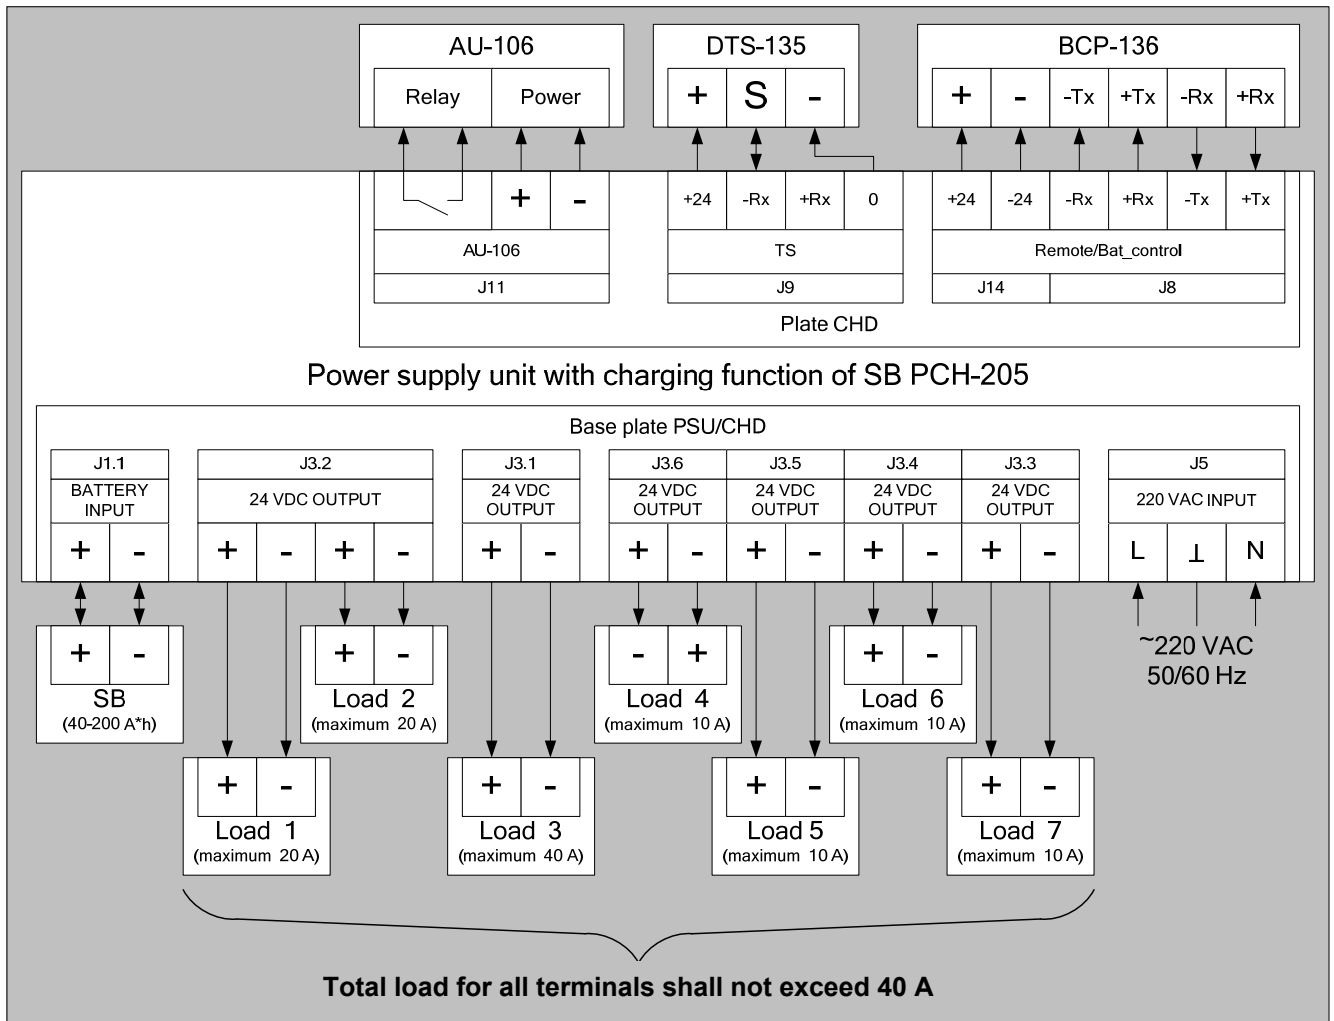

Figure 9. Connection Diagram of External Devices to PS
3. Deliver cables of connected devices to the PS. When selecting, use the cable with an appropriate core section (see Cable Core Section Table, Table 7 and Figure 9).
7. Connect wires of the storage battery and external device to the terminals of the charging device according to the connection diagram (Figure 9).
9. Connect a power supply cable to the terminals of PS “220 VAC INPUT” (see Figure 9) according to the following designation:
The following devices can be connected to the charging device (see Figure 9):
Temperature sensor DTS-135 is designed to control temperature of the charged battery. The temperature sensor is recommended to be used as a part of PS/CHD with helium batteries. Temperature sensor DTS-135 is connected to terminals “TS” (see Figure 9).
Alarm unit AU-106 is designed to inform about transfer of PS to abnormal mode by light and audio signal and is used in cases of PS installation inside the panel or in the facilities being distant from the house (see para. 7.1.1). Alarm unit AU-106 is connected to terminal “AU-106” (see Figure 9).